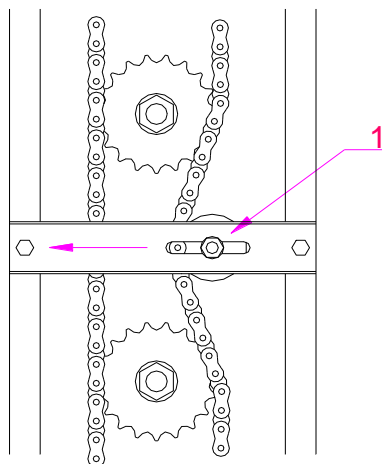

Fig. 9
- b) Loosen slightly screw (1) fig. 9 and move the tautener to the left. Fasten the tautener again by tightening the screw (1) once the chain is properly tautened.